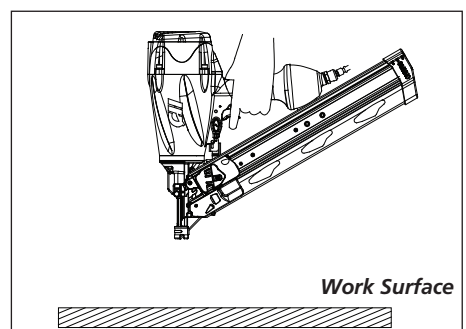

Figure 19
6. Remove nailer from work surface. The WCE must return to its original down position. Pull the trigger (See Figure 19). The nailer **MUST NOT OPERATE**. Do not use the tool if it operates while lifted from the work surface. Personal injury may result.